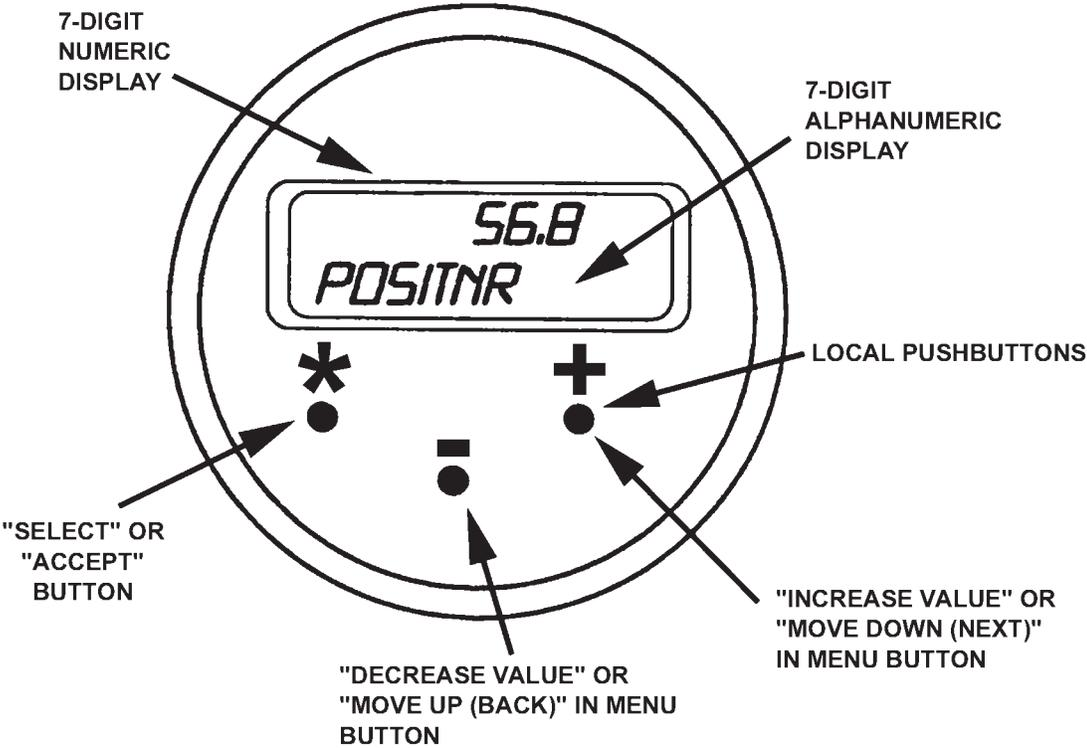

Figure 30. Local Display and Pushbuttons
Operation of the SVI Positioner as a local device is controlled through the optional device-mounted push-buttons and digital display, as shown in Figure 30. Using the display, you can read: (1) the input signal (2) pneumatic output signal, and (3) valve position. The display sequences from one variable to the next every 1.5 seconds.
As shown in Figure 30, the upper line is a 7-digit numeric display and the lower line is a 7-digit alphanumeric display. The upper line is used for displaying values such as input signal or valve position, and the lower one is primarily used for messages and parameter identification.